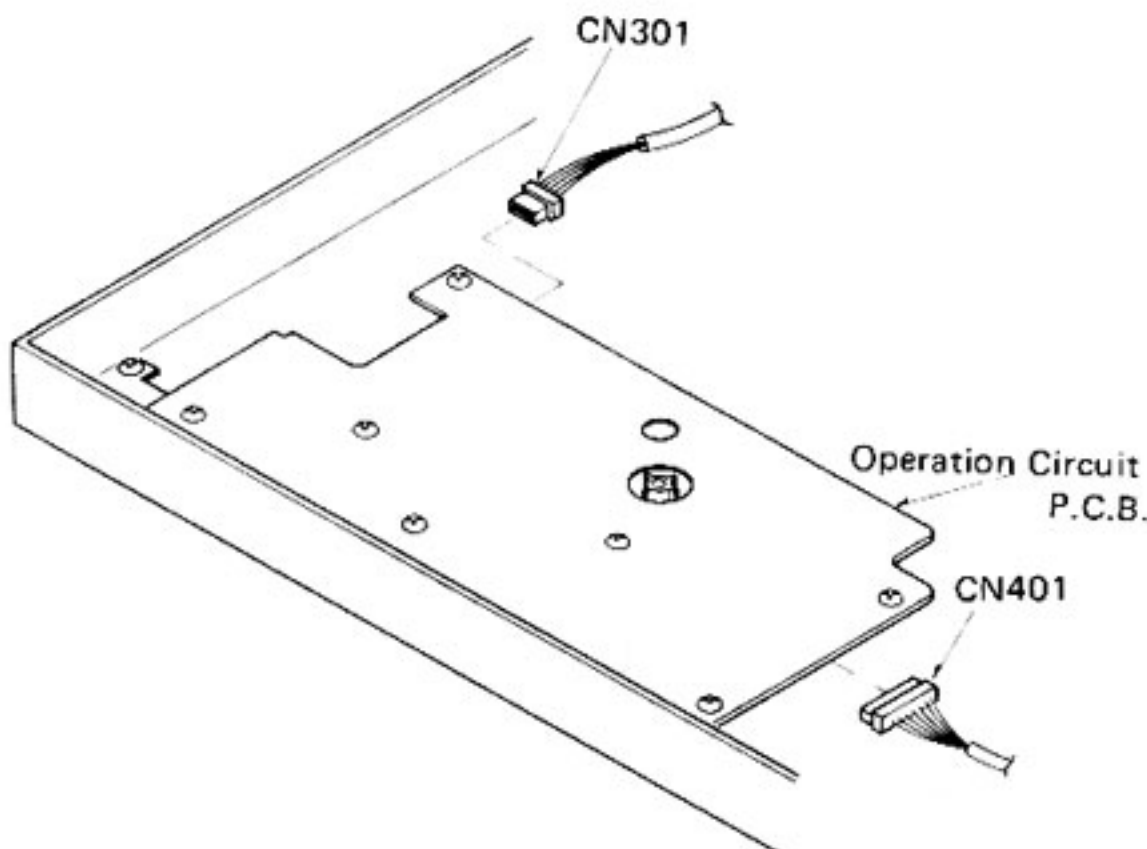

Fig. 8
2. Pull out the 2 connectors (CN301, CN401) from the operation circuit board. (Fig. 8)